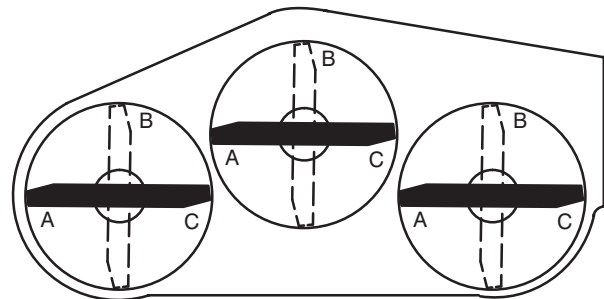
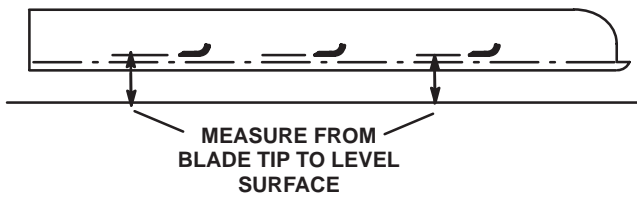

Figure 33
Figure 34
5. Position all 3 blades in the “A” position (Fig. 33) and measure from the level surface to the bottom of the tip end of each blade (Fig. 34).
6. Note the measurement attained at “A”, rotate the blades to the “B” position (Fig. 33), measure the distance of all of the blades to the level surface, and note the dimensions (Fig. 34).
7. Rotate the blades to the “C” position, measure, and note the distance measured (Fig. 33 and 34).